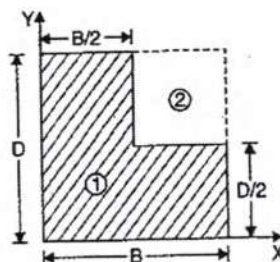

Figure 3
3. Find the moment of inertial of the centroidal XX and centroidal YY axis of the section as shown in figure 3. [7]